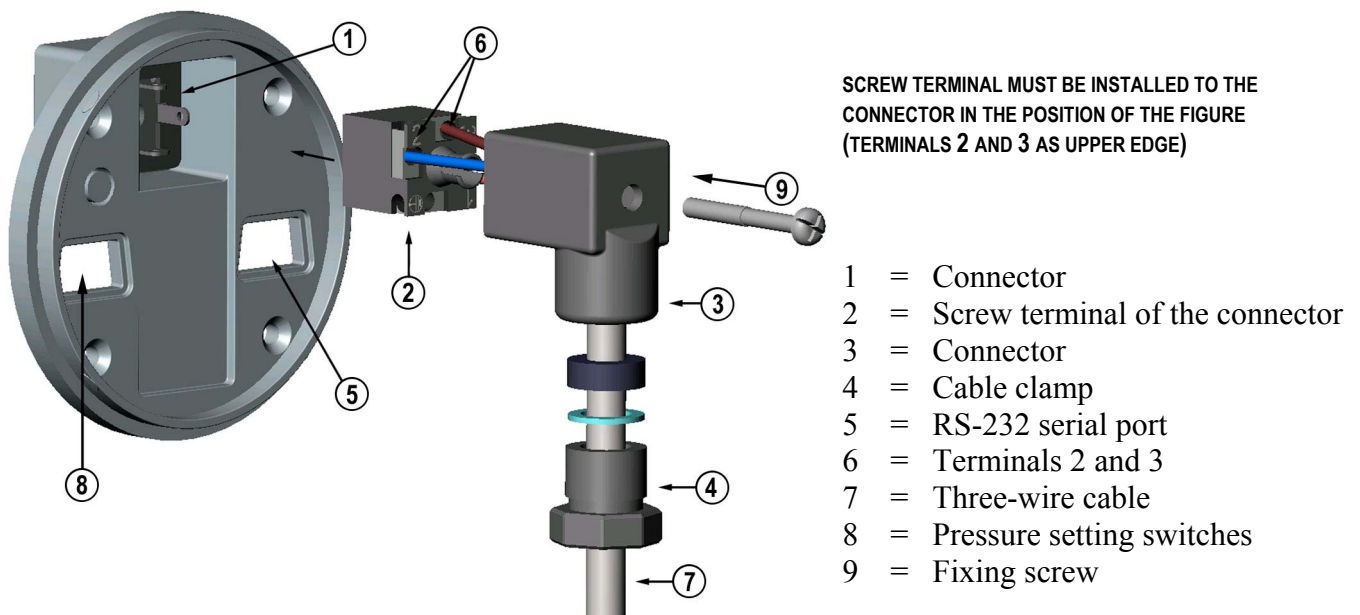

Figure 3 Wiring and Installation of Connector
For achieving the most accurate measurements in pressurized processes, set the process pressure to DMT242 according to Figure 1 by using the pressure switches (see Figure 3, item 8). As shipped from factory, the pressure switch setting is 1 bar, as in switch number 4 in the ON position.
- Insert the wired screw terminal back into the connector exactly in the position indicated in Figure 3. Push the fixing screw through the connector. Fasten the cable clamp. Insert the wired connector into the counter connector.
NOTE The connection is incompatible if the positioning of the screw terminal is NOT as indicated in Figure 3. Fasten the fixing screw.